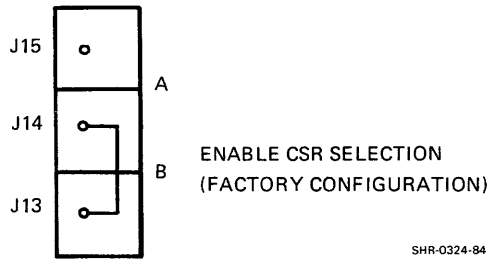

Figure 2-4 Enable/Disable CSR Selection
**2.2.3 Enable/Disable CSR Selection Jumper (Figure 2-4)**